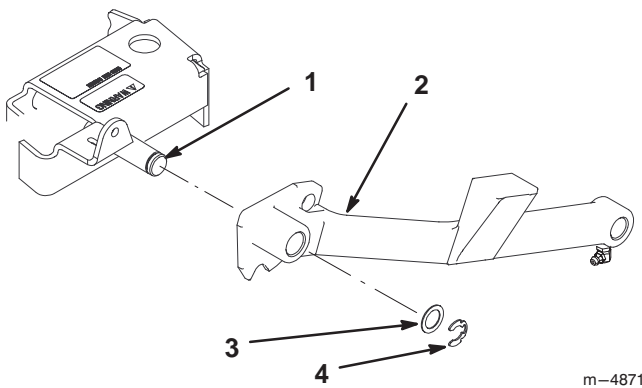

Figure 5
1. Place push arm onto carrier frame pin as shown (Fig. 5).
2. Secure with a flat washer (1-1/2 in. (38 mm)) and retaining ring (Fig. 5).